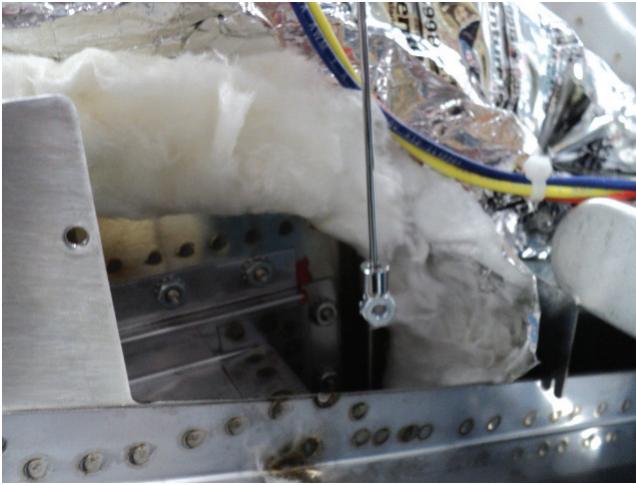

Figure 15
- Using the telescoping magnetic pickup tool supplied with kit place a nut on the magnetic end and line it up with a stud. Slowly turn the nut onto the stud with your other hand, then remove magnetic tool (Figure 15). Repeat this for the remaining nuts located between the cavity and waveguide.